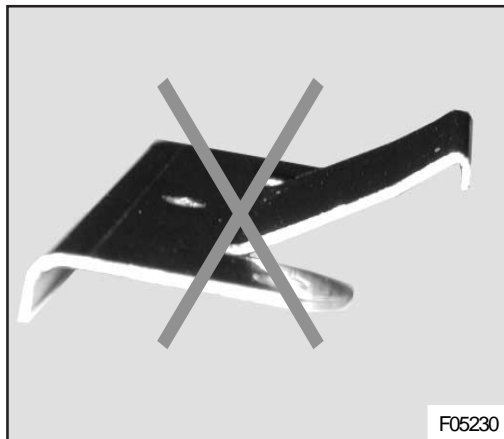

Figure 2 : Single-latch type catch is no longer used in production
2. Identify the type of catch. All single latch types have to be replaced. Double latch types have to be changed, only if they show factory modifications (see Figures 2, 3 and 4).